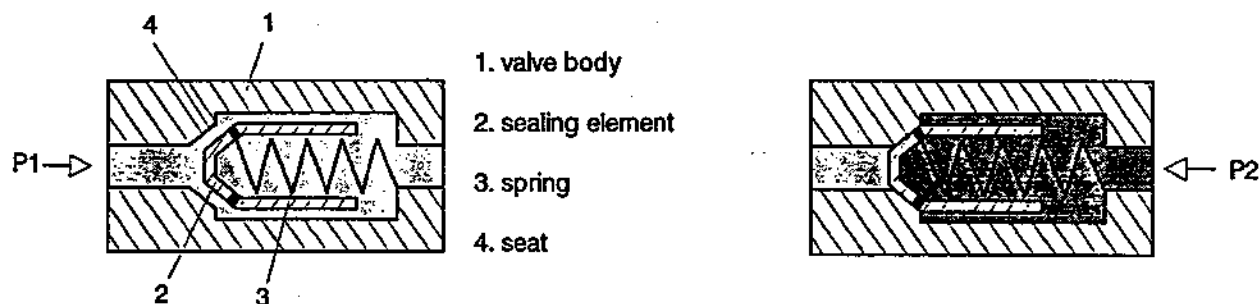
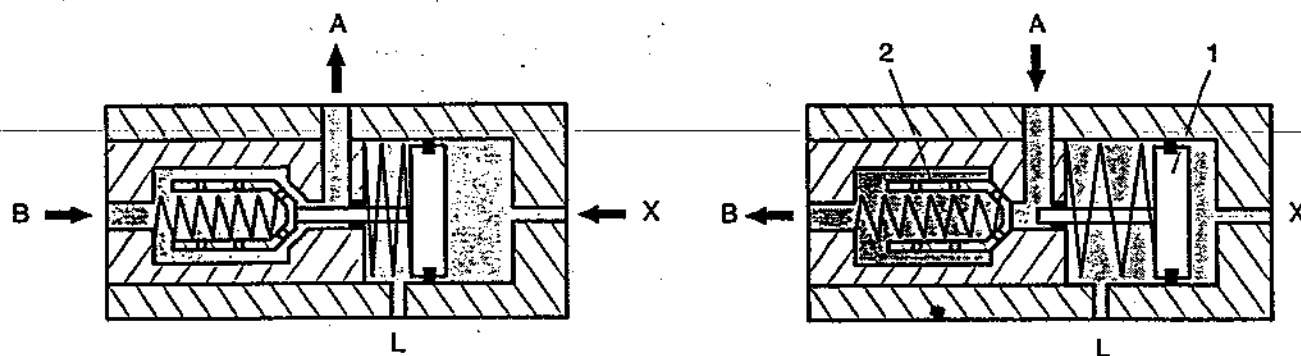

Figure 5. Check Valve
Figure 6. Pilot Operated Check Valve
The third exercise demonstrates the use of check valves in a hydraulic circuit. A check valve permits flow in one direction only. Figure 5 illustrates a simple check valve. Fluid can flow from A to B since the fluid force unseats the valve. However, if the direction of flow is changed, the flow from B will be blocked by the spring loaded check assembly. A pilot operated check valve performs the same function as a check valve when it is unactuated. As demonstrated on figure 6, fluid will flow from A to B, however is block from B to A. When pilot pressure is applied at X, pressure is exerted on a piston (1) which in turn unseats the check valve. Fluid can now flow from B to A.